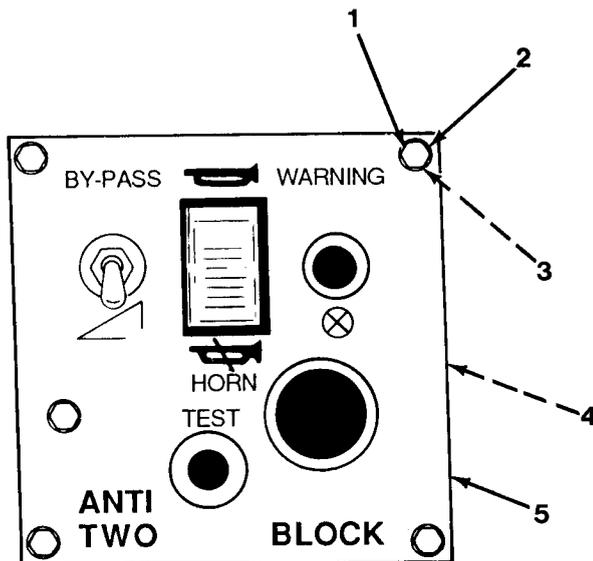

Figure 10-1
2. Remove four bolts (1), washers (2) and tubes (3, Figure 10-1).
3. Disconnect plug (4) from connector in cab at rear of control panel (5).
4. Remove control panel (5).